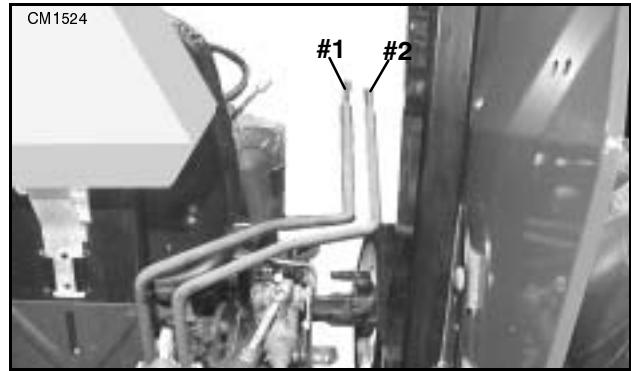

Figure 10 Single Lever Control Operation
4. Check that all hydraulic control lever positions operate the loader movements correctly as shown in Figure 10.